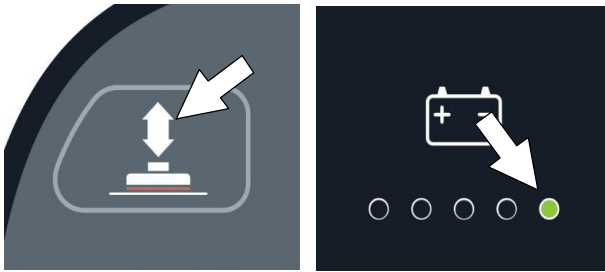
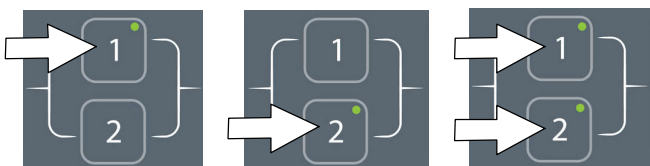

FIG. 166
FIG. 167
1. Park the machine on a level surface and turn the key to off (O) position.
2. Press and hold the brush pressure button while turning the key on. Release button when the far right battery discharge indicator LED turns on (Figure 166). After releasing button, the active supervisor control mode will display as described in step 3 (Figure 167),
3. To select or change a supervisor control mode, press and hold the specific zone control button until the LED blinks three times (Figure 167). For lockout mode 3, press and hold zone control buttons 1 and 2 at same time. After selection is made, the LED will turn solid to indicate new mode.